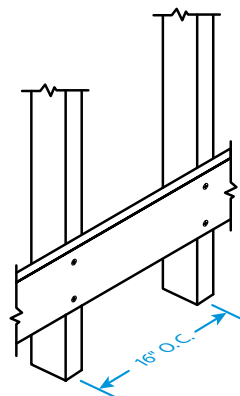

Figure 1
- Like wood, use 2 fasteners per every framing member for trimboard applications (See Figure 1 below). Trimboards 12" or wider, as well as sheets, will require additional fasteners.